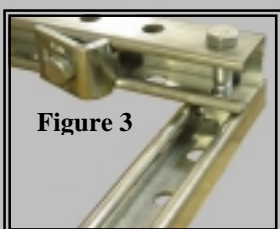

Figure 3
3. Attach the two long rails to the bottom of the end rails using the ½" x 2½" bolts and spring nuts (Figure 3), ensuring the compensating cables are in between the two long rails.